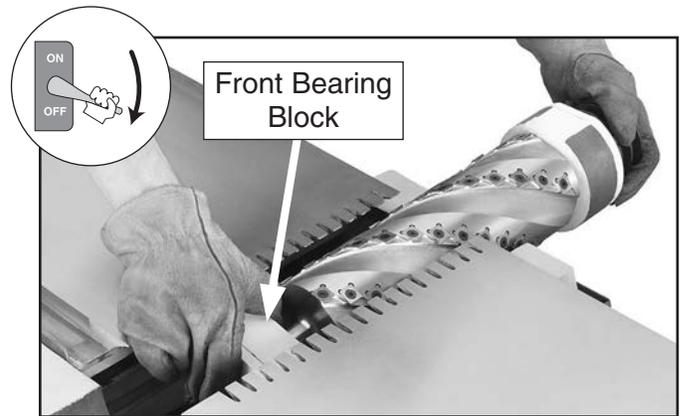

Figure 17. Installing helical cutterhead.
- Secure front bearing block with hex bolt and flat washer removed in **Step 26** on **Page 5**, then re-install cap with (3) cap screws.
- Move cutterhead to jointer. Using mark from **Step 18** on **Page 4**, install cutterhead so front bearing block is positioned at front of machine (see **Figure 17**). Be careful not to chip carbide inserts on jointer beds.